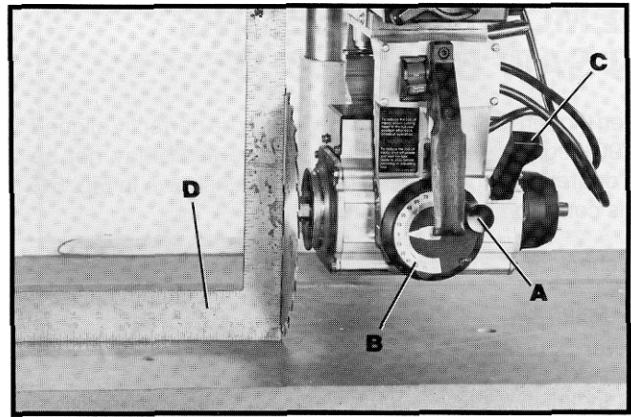

Fig. 47
3. Place the cuttinghead in a cross-cut position as shown in Fig. 47. Lower track arm until the saw blade is just clear of the table and slide the cuttinghead forward until it is positioned over the front table board; clamp the cuttinghead in position.
4. Make certain the bevel index knob (A) Fig. 47, is engaged and the motor is in a horizontal position with the pointer on the "zero" mark on bevel scale (B). Tighten bevel clamp lever (C).
5. Place a square (D) Fig. 47, on the table and against the saw blade, as shown, and check to see if the blade is square with the table. **NOTE:** The square should rest between two teeth of the saw blade.